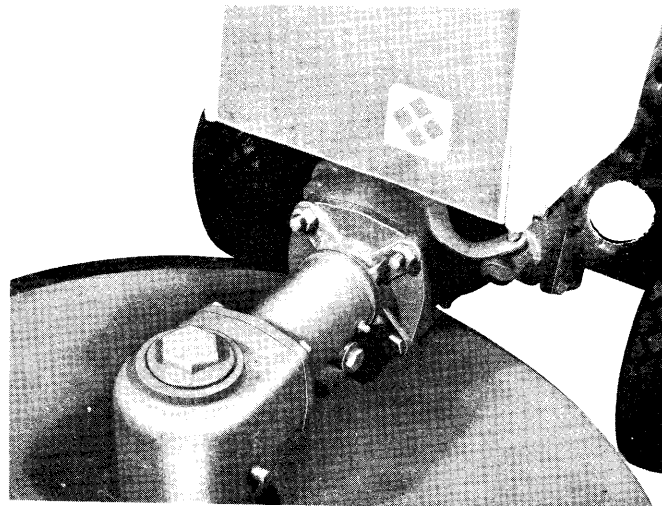

fig 3
- The mower attaches to the tractor with 2 bolts and 2 nuts as shown in fig 3. Do not damage the threaded studs.